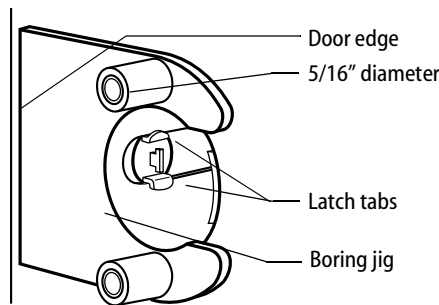

Figure 3 — Installing the boring jig onto the door
- 4 Install the latch through the 1" diameter hole. For drive-in latches, use a rubber mallet. Latch tabs should project into the 2 1/8" diameter hole. See figure 3 in task 3.
- 1 Install the boring jig onto the door and engage with the latch tabs. Make sure the front edge of the jig is parallel with the door edge. See Figure 3.